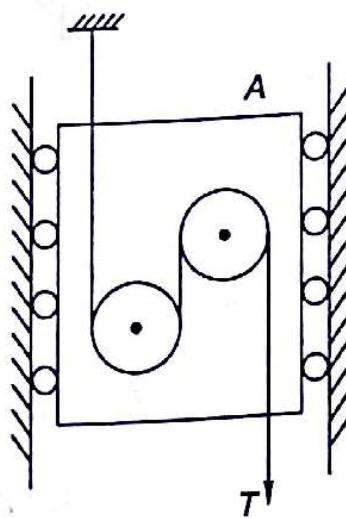

Fig. 14.22
14.2 The acceleration of a 40 kg carriage A is controlled by tension T exerted in control cable that passes around two circular pegs fixed to the carriage. Determine the value of T required to shunt the downward acceleration of carriage to 2 m/s^2 , as shown in Fig. 14.22. The coefficient of friction between control cable and peg is 0.20.